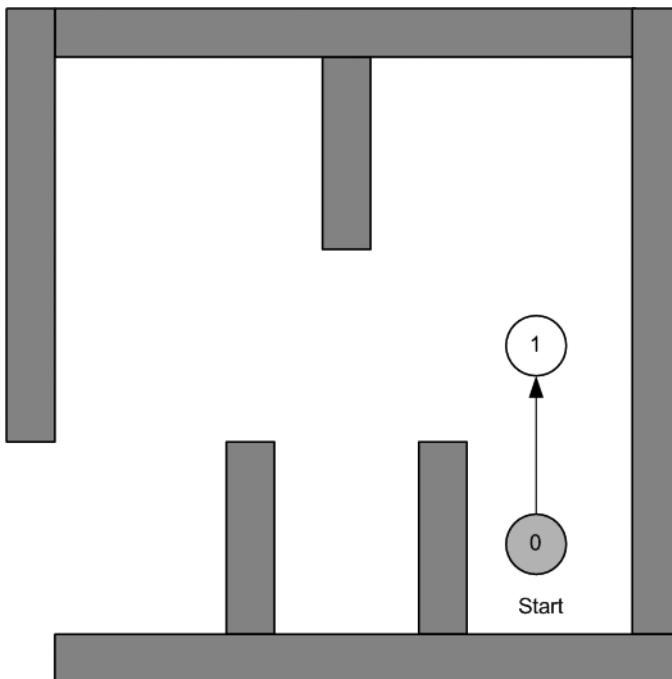

Figure 9-5. The robot at its start position in a simple maze.
3. Based on these characteristics, the robot creates adjacent regions, where there is room to move (as shown in Figure 9-5).